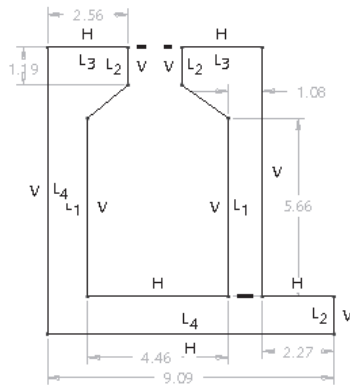

Figure 2-30 Sketch with weak dimensions and constraints
- Draw the sketch using the line tool, refer to Figure 2-30.
7. Select the vertex that is joining lines L and M and the vertex that is joining lines G and H. Both the vertices are aligned horizontally, as shown in Figure 2-30.